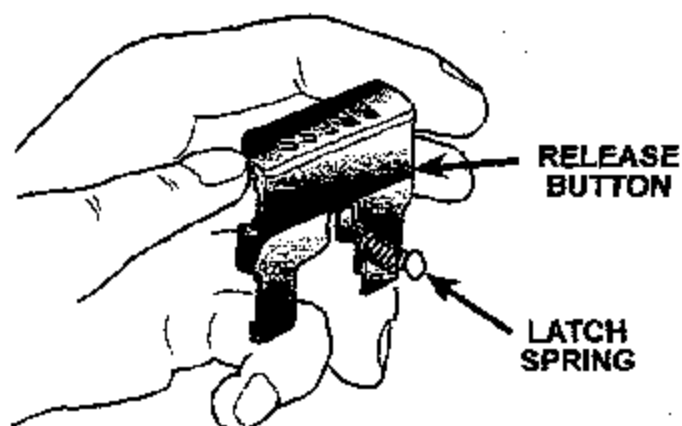

Figure 8
13. Model 521K (Recall #652) only: Make sure that the latch spring is attached to the provided release button. Rotate the latch spring away from the button to ease button installation (Figure 8).